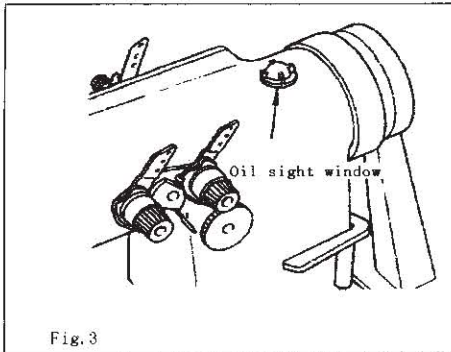

Fig. 3
2. refill the oil when the oil level is beneath the "low" mark(Fig.3)